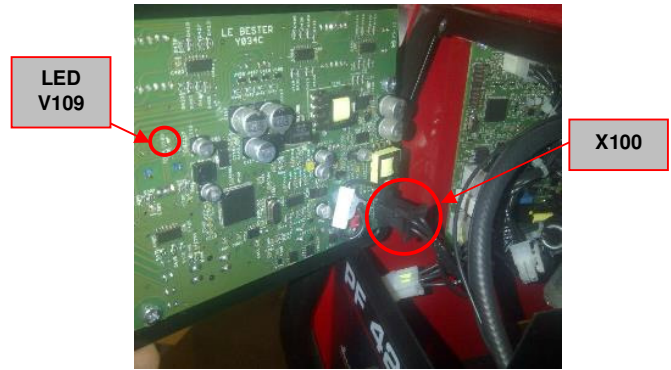

Figure 1c – User Interface component side
3. Do not unplug the User Interface board from the Power Feeder. Keep it connected as indicated in **Figure 1c**.
6. Locate the User Interface board connector **X100** and using the multimeter perform the tests as indicated in **Test Table 1**. See **Figure 1c**.